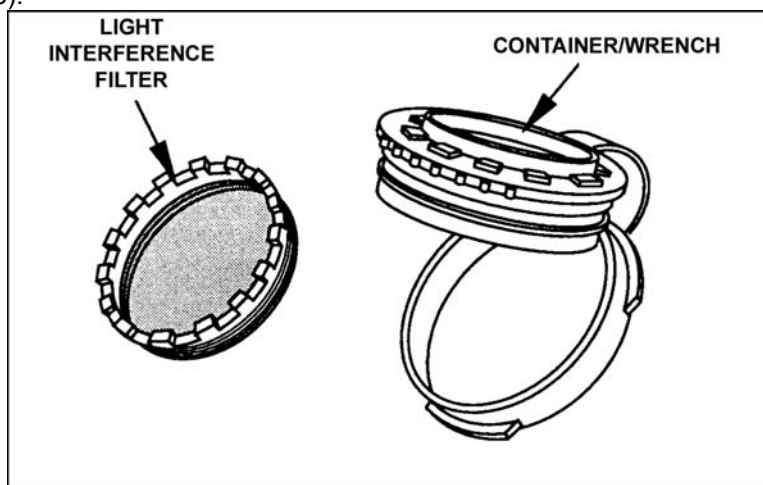

Figure 8. Light interference filter assembly.
- (1) Remove the eyecups by carefully pulling them off the diopter ring.
- (2) Carefully press a demist shield onto each eyepiece. Do not smudge eyepiece or demist shields.
- (3) Replace eyecups. Press each eyecup over the diopter retainer ring. Rotate it into correct viewing position.
- d. Laser threat environment. Install the LIF. Using this filter will slightly reduce system gain (Figure 8).